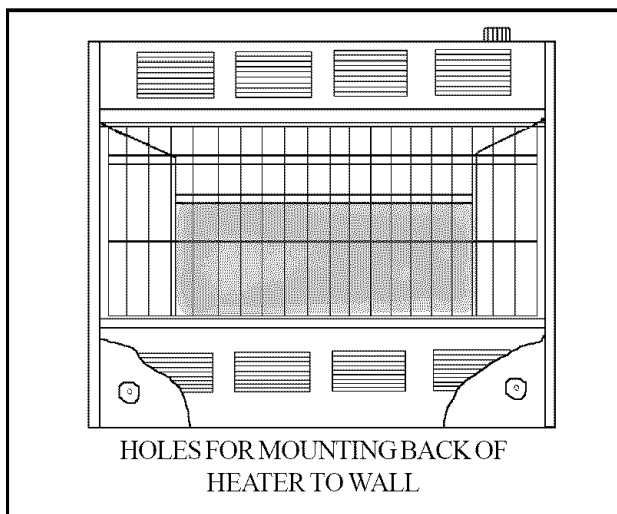

FIGURE 3
STEP 6. Secure back of heater to wall, utilizing anchors (if necessary) or wood screws. See Figure 3.